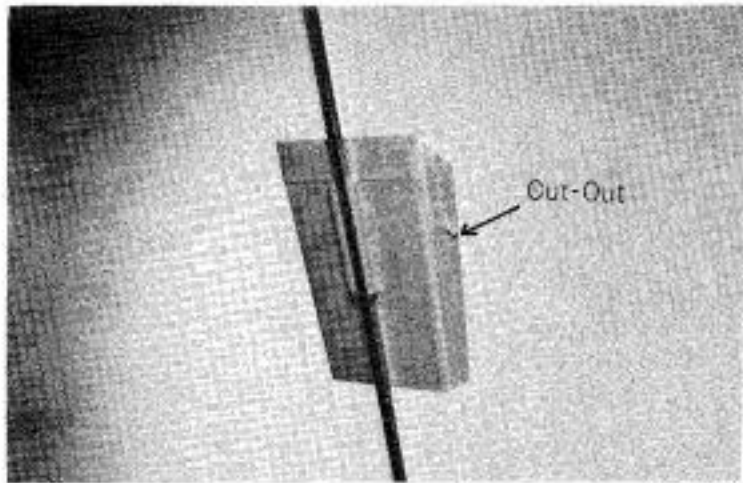

Fig. 19
13. Clip Plastic Hand Tool Holder to the rod at a convenient height. (Fig. 19)
Note: The cut-out, to be found on both sides of the Hand Tool Holder (see Fig. 19) may be used for temporarily holding any loose end of wool not at present in the feeder.